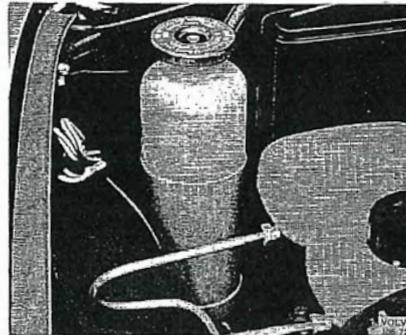

Fig. 1-17. Expansion tank
3. Check that coolant level is between "Max" and "Min" marks on expansion tank (see Fig. 1-17).